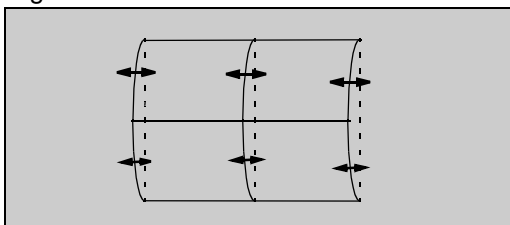

Figure 41. **Corner Adjustment**
14. Adjust by pressing VOL right-left (See Figure 41).
32. Adjust corners (See Figure 41)